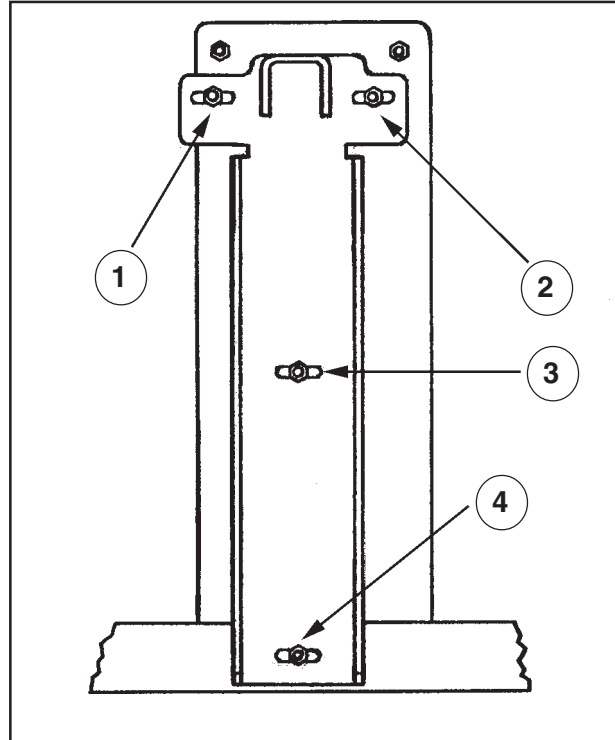

Figure 34
6. Locate the four mounting studs on the brush head bracket. See figure 34. The top two mounting nuts can be accessed through the top of the solution tank. The lower two can be accessed through the front. Loosen the four mounting nuts 2 to 3 turns counterclockwise. NOTE: Do not remove mounting nuts.